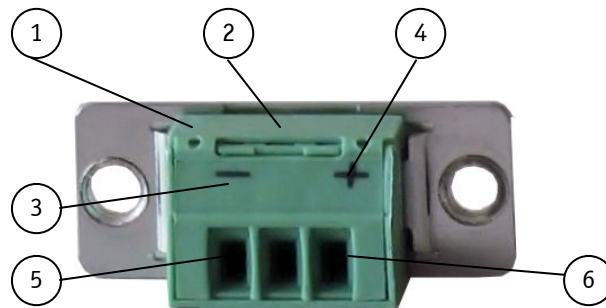
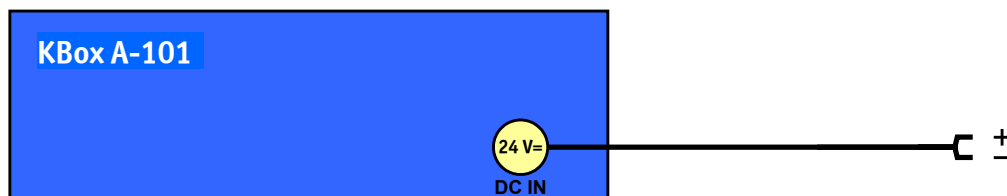

Fig. 20: Phoenix power plug terminal with "plus" and "minus" marking
Fig. 21: Connecting the KBox A-101 to a DC main power supply via DC power cable
5. Insert the wires into the corresponding clamp of the Phoenix plug terminal. Make sure that you have the right polarity of the connection (refer to Fig. 20).
<p>The KBox A-101 can be connected to a DC main power supply (see Fig. 21) via a DC power cable and the supplied Phoenix power plug terminal (see Fig. 20).</p>